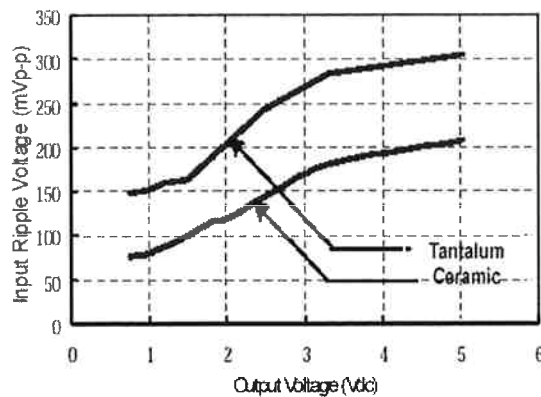

Figure 8 Input voltage ripple VS Output voltage
3. 6 \times 47 μ F tantalum, 6 \times 22 μ F ceramic ---- Figure 8